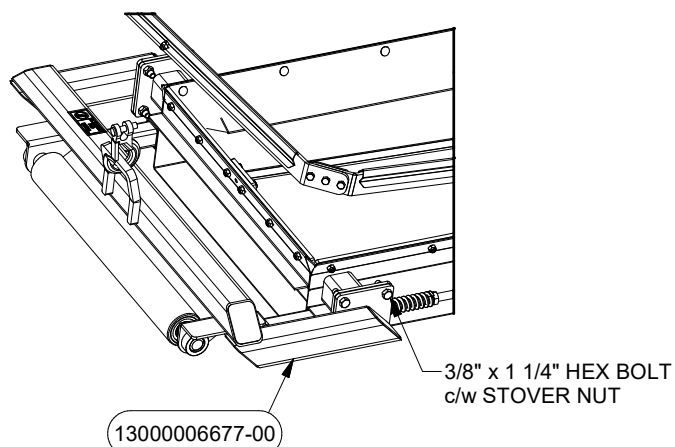

FIGURE 12
24. Attach the Hitch PN# 6677 the SW Body using Hex Bolt c/w Stover Nut. Fasteners can be found in Bolt Bag PN# 6794 (see Figure 12).